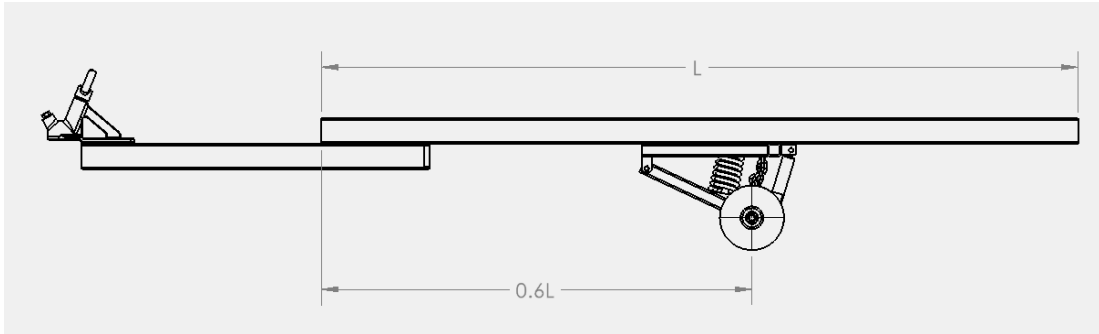
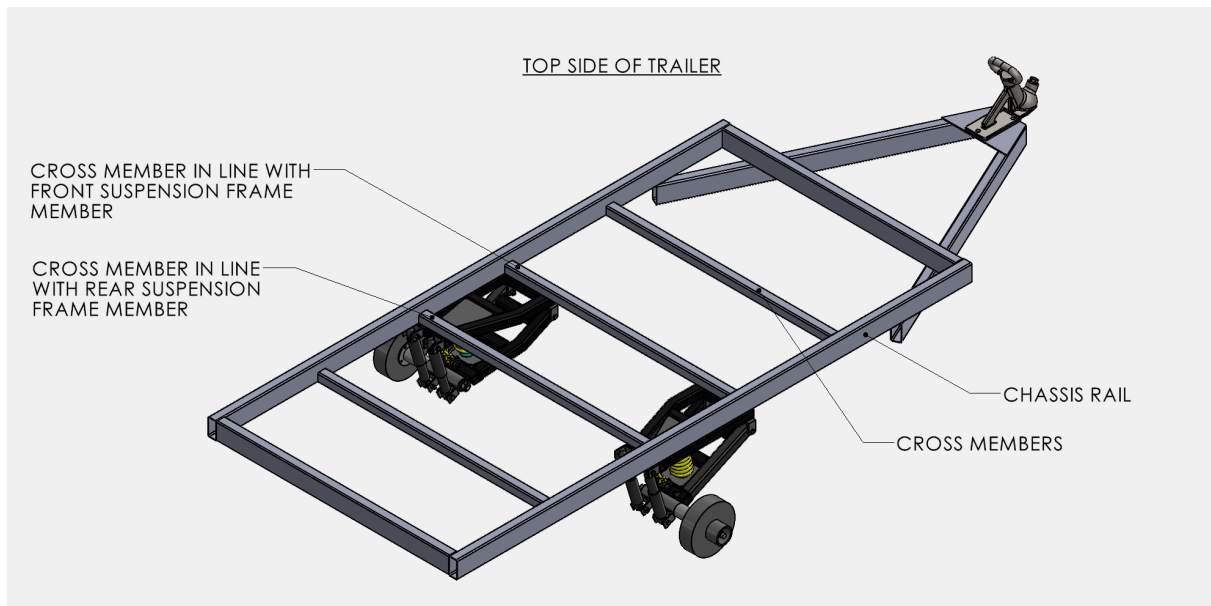
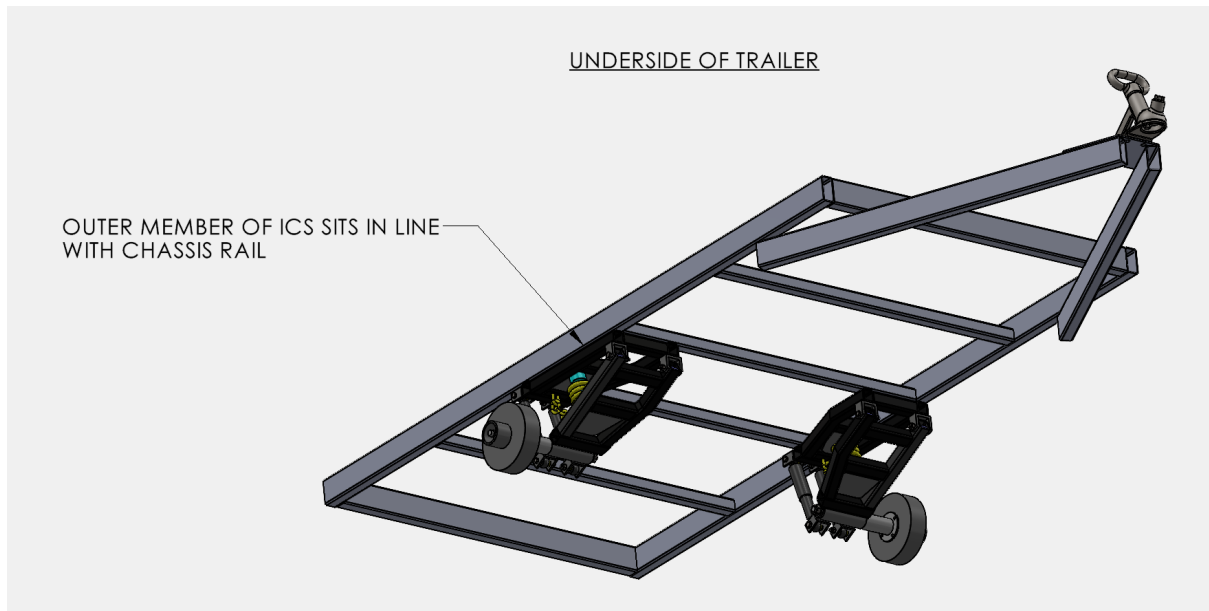

Figure 2
Figure 3
Figure 4
2. Manoeuvre the independent suspension into position for installation. The wheel or hub centre should sit approximately 57-60% along the bed of the trailer from the front (See figure 2). A cross member should sit parallel and in line with the front member of the independent suspension. A cross member should also sit parallel and in line with the rear member of the independent suspension (See figure 3). The outer member of the independent suspension should sit parallel with the outer chassis rail (see figure 4). The suspension frames can be temporarily clamped to the chassis rail or cross members using G clamps or the like.
The same procedure applies to installing an ICS tandem setup. The only difference will be the position in Figure 2. The centre of the axle group should sit at approximately 57%-60% along the bed of the trailer from the front. Extra cross members are likely needed to be welded to the trailer chassis to attach the independent suspension frames to. Do the above steps one axle group at a time.